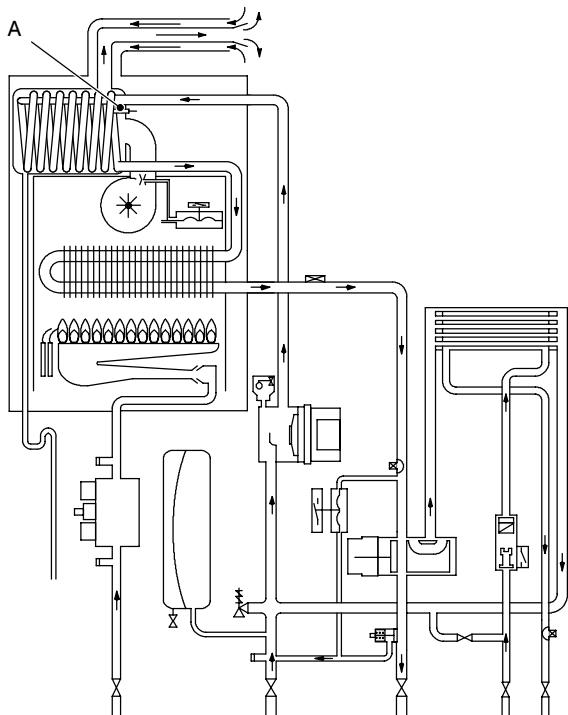
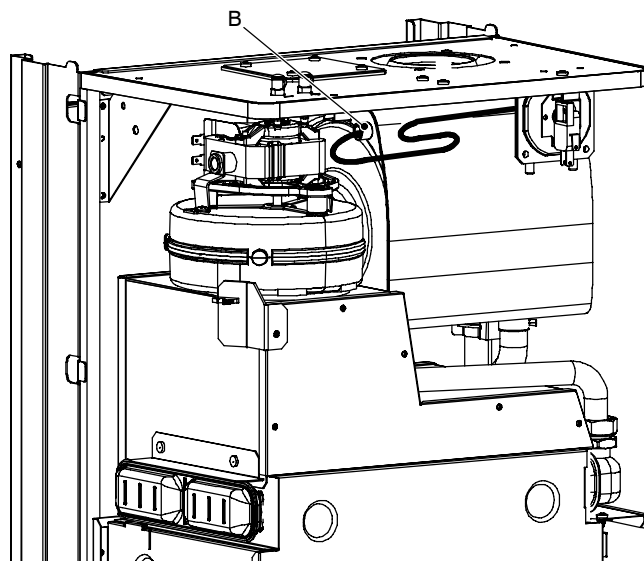

Fig. 87
Fig. 88
The Flue temperature probe NTC A in Fig. 87 and Fig. 88 senses the temperature of the combustion products that flow through the condensing heat exchanger.
- 3 Unscrew and remove the thermostat probe B (Fig. 88) from the condensing heat exchanger.